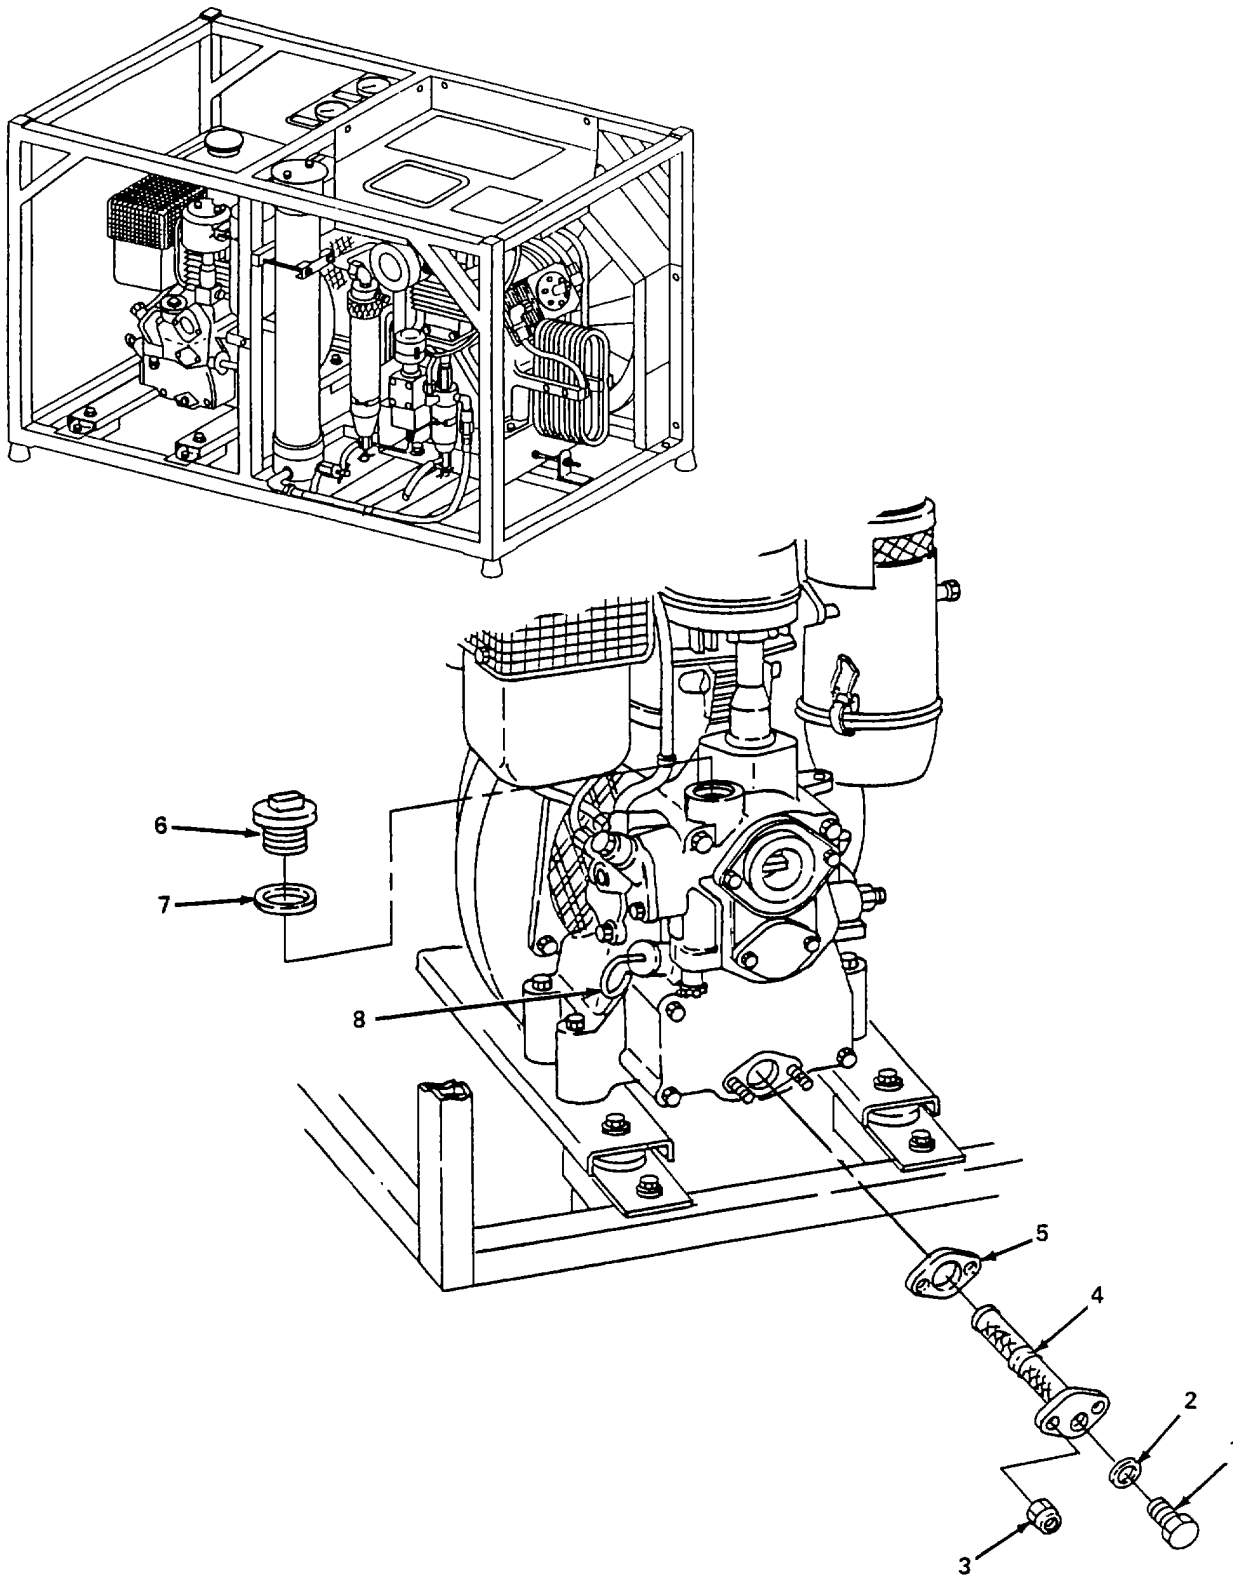

Figure 4-32. Oil Screen, Replace.
**4-31. Oil Filter Screen (Cont).***b. Replace.* (figure 4-32)
- (1) Remove drain plug (1) and gasket (2), and drain engine oil into suitable container. Discard gasket (2).
- (2) Remove two nuts (3) and remove oil screen (4) and gasket (5). Discard gasket (5).
- (3) Ensure all gasket mounting surfaces are clean and free of old gasket material.
- (4) Install new gasket (5) and new oil screen (4) and secure with two nuts (3).
- (5) Install new gasket (2) on drain plug (1) and install drain plug (1).
- (6) Remove oil filler cap (6) and gasket (7).
- (7) Add oil to engine until oil level reaches full mark on dipstick (8). Refer to table 3-1 for proper grade viscosity of oil.
- (8) Install oil filler cap (6).